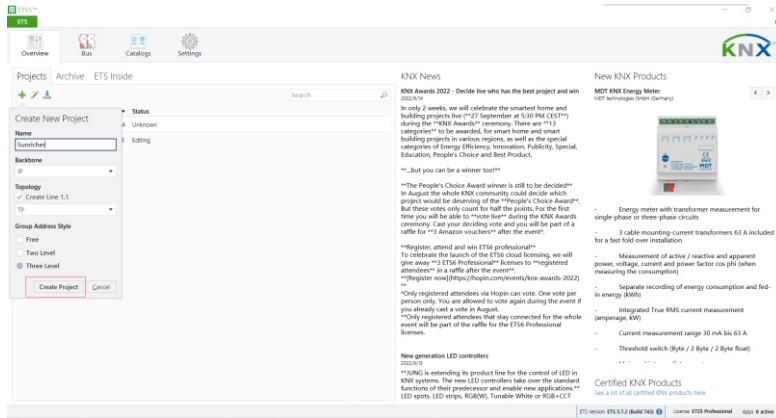

Figure 19
2.6. Click on **“Overview”** on the top, then click on **“Projects”** and **“+”** button to create a new project, fill out the information and then click on **“Create Project”** as shown in Figure 19.